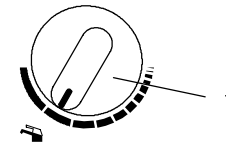

fig. 2.8
Moreover, where the amount of limescale present in the water may be particularly great, not exceeding the position in fig. 2.8 of the domestic hot water control knob (10) corresponding to about 50°C (fig. 2.8), minimises annoying incidences of scale deposits and clogging.